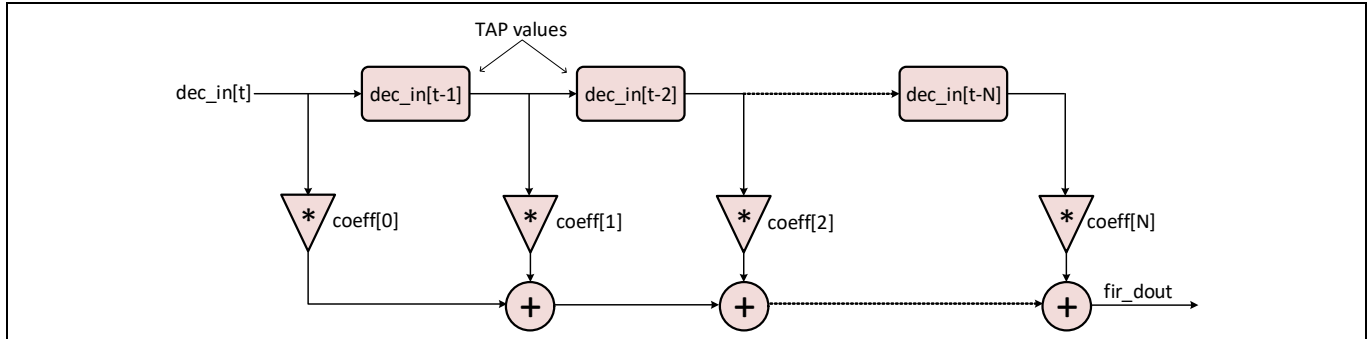

Figure 22-19. FIR Filter
From **Figure 22-19**, dec_in signifies the input data to the FIR from the decimator, while the [t] signifies is the instance in time. As data enters the FIR it is first multiplied by the initial coefficient value (coeff[0]); then it is added with the product (*) of the previous decimator data [t - 1] and the next stored coefficient value (coeff[1]), and so on. This continues until it reaches the number of TAPs enabled (N), which is a programmable register in PACSS_DCHANx_DCHAN_CTL. The maximum value is 64. The coefficient value (16-bits) and saved tap values (32-bits) are stored in separate SRAMs.